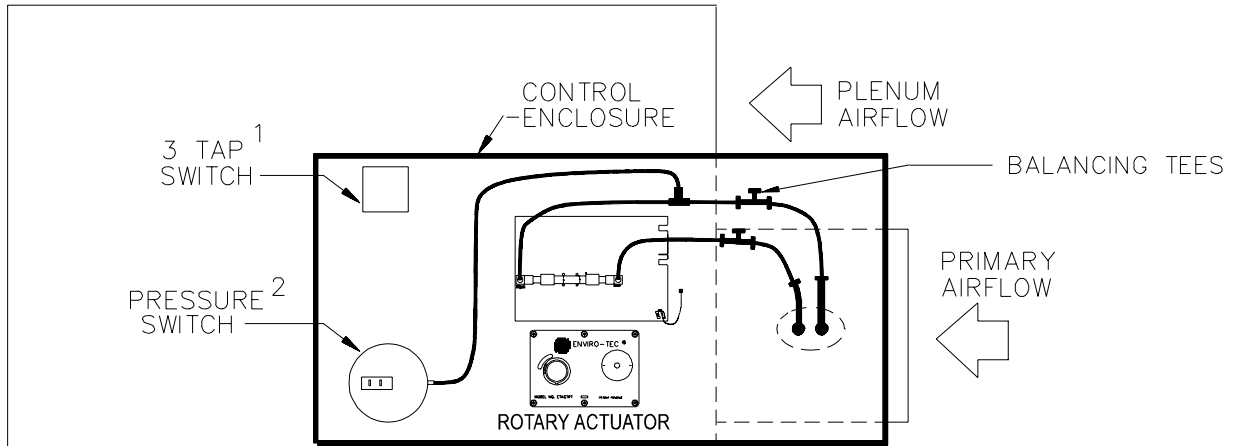

Figure 5, Typical Component Mounting
2.1 Inspection (Figure 5)
Upon receipt of VAV terminals, check controls for shipping damage such as loose or broken connectors, broken actuator or controller housing, loose or disconnected tubing and loose wiring. Also inspect both before and after installation for damage caused by abuse or mishandling. A diagram of a typical control component mounting configuration is provided above in Figure 5.